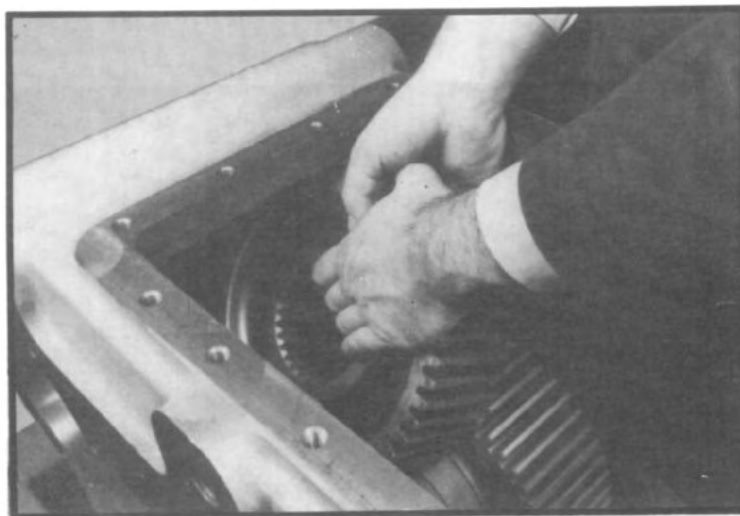

Fig. 88
1. Position upper shaft input gear in housing. (48 Tooth Gear) (See fig. 88.)